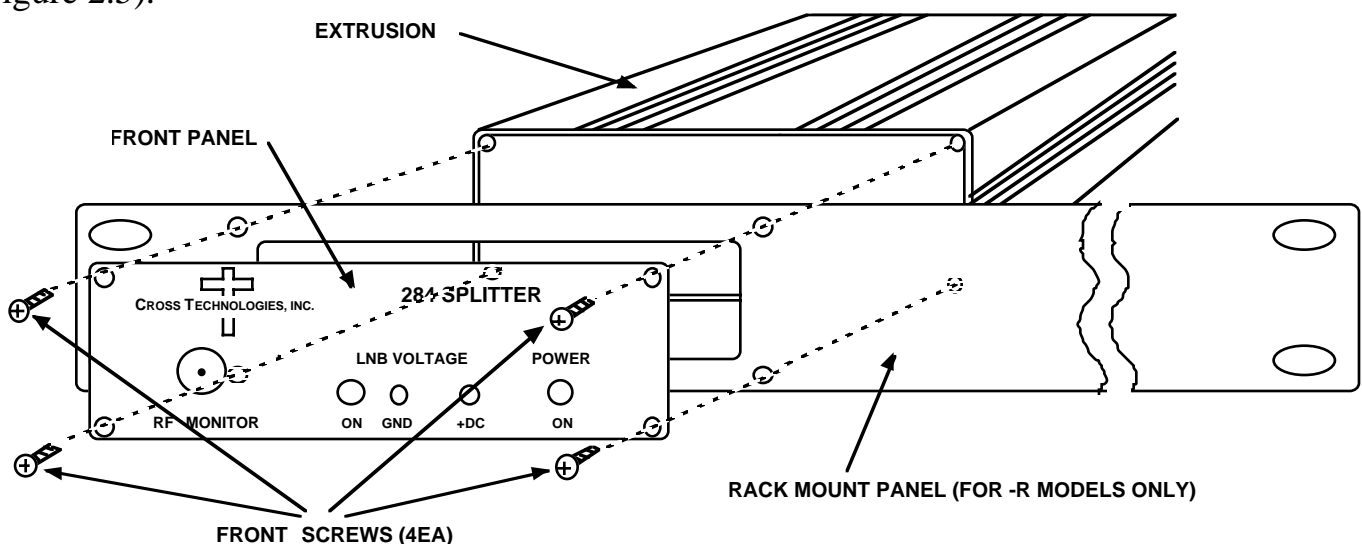

FIGURE 2.5 RACK MOUNTING THE 284-15
2.5 Rack Mounting - The 284-15 is packaged in an aluminum extrusion. The **-R option** is mounted on a 1 3/4" x 19" rack panel that can be mounted to a rack using the four holes at the ends. To mount a 284-15 unit to a rack panel, remove the four screws attaching the front panel to the extrusion, and then (using the same screws) reattach the front panel to the front of the rack panel with the extrusion (containing the PCB) on the other side of the rack panel (see Figure 2.5).